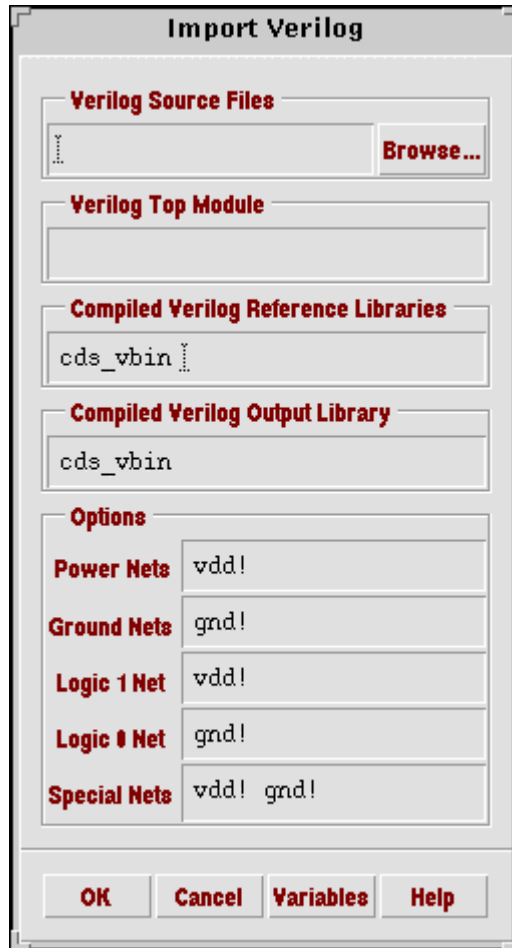

Fig 3: Import Verilog
2. The "Import Verilog" window opens as shown in Fig 3. In the **Verilog Source Files** text box select all the verilog netlists that are needed for your design. Fig 4 shows all the selected netlists.
3. Click **OK** in Fig 4. In the "Import Verilog"(Fig 3) window enter the name of the primary module in the **Verilog Top Module** text box. This is the name of the hierarchial top module in the verilog netlist.
6. After completing all these steps the form shown in Fig 3 looks as shown in Fig 5. Click **OK**. Watch the command text box to make sure there are no errors in importing the verilog netlist. Thus importing of the verilog netlists is done.